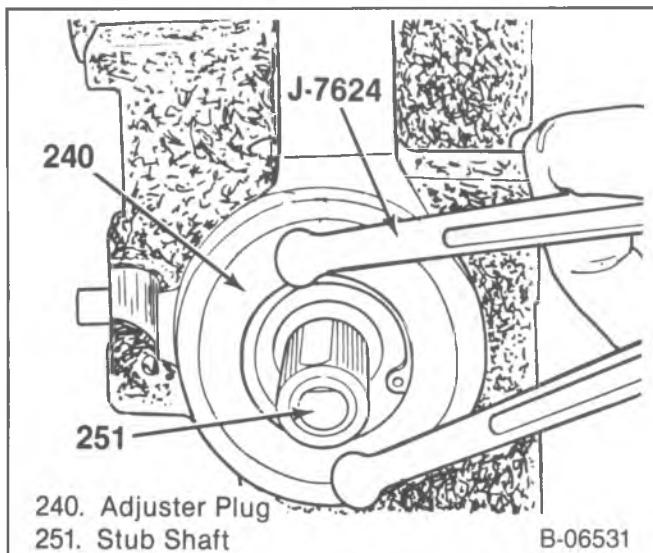

Figure 16—Bottoming the Adjuster Plug
Adjust (Figures 16 through 23)
- Use tool J-7624. Turn the adjuster plug (240) to the left until the plug and bearing (237) are firmly bottomed – about 27 N·m (20 ft. lbs.) (figure 16).